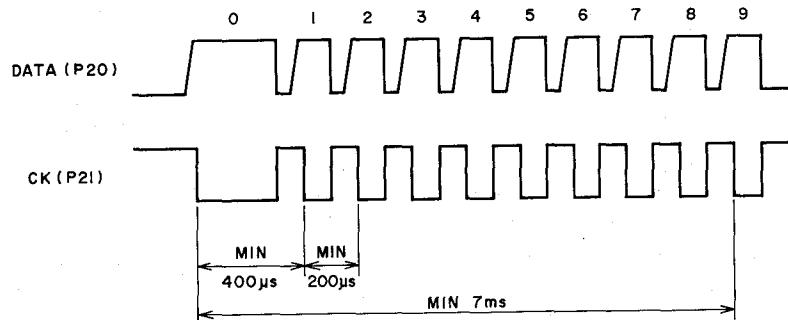

Fig. 5-3
- The minimum time from the 0 Bit CK to 1 Bit CK is 400  $\mu$ sec., and after that, the minimum time is 200  $\mu$ sec. (refer to Fig. 5-3)